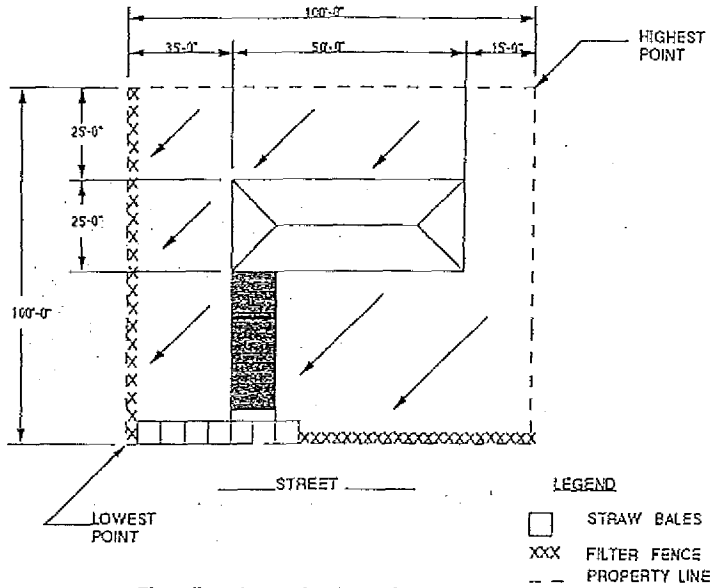
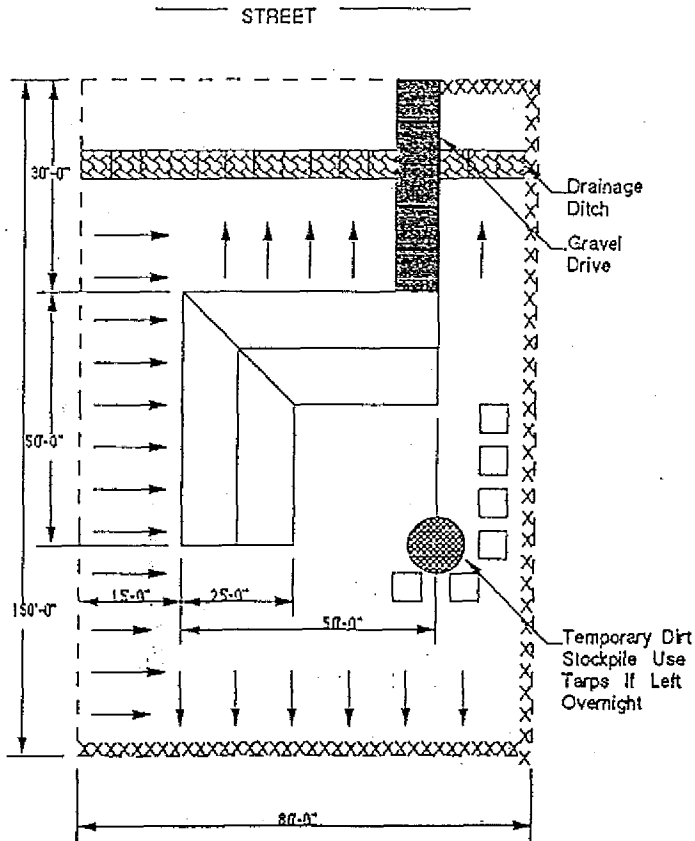

Figure E-8. Plot Plan for Simple Slopes.
Figure E-9. Plot Plan for Complex Slopes.
Also included in this appendix are examples of plot plans depicting the requirements as specified in ss. ILHR 20.09 (4) (a) 1 and 21.125. Figure E-8 is an example of a site with a simple slope (all slopes occurring in one general direction); Figure E-9 is an example of a plot having complex slopes (slopes occurring in more than one direction). Figure E-10 is an example of a plot plan in which the location of the erosion control procedures are clearly indicated on the plot plan. Figure E-11 is an example of a large lot, greater than 5 acres, with slopes greater than 12% and where the area of land disturbing activity is indicated.